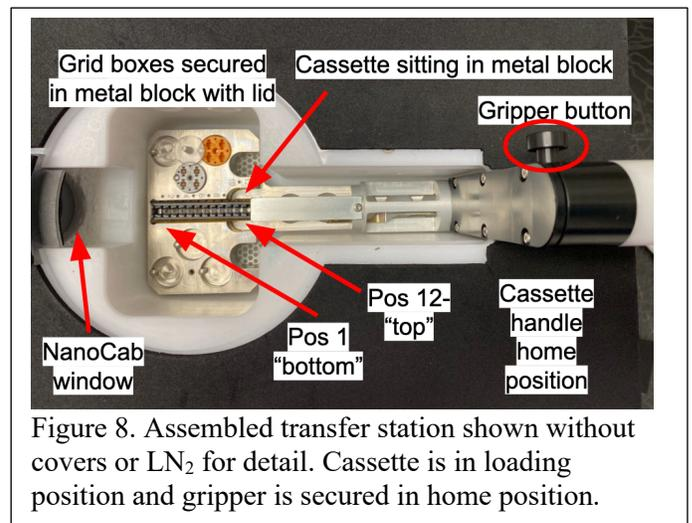

Figure 8. Assembled transfer station shown without covers or LN₂ for detail. Cassette is in loading position and gripper is secured in home position.
4.4.2. Place cassette in the loading position of the metal block oriented as shown in figure 8.
- 4.5.5.2. Press and hold the side gripper button (see fig 8) to grip the cassette.
- 4.5.5.3. In one fluid motion, being careful not to lift out of nitrogen vapor, remove the cassette from the NanoCab and place it in the loading position of the workstation (fig 8).